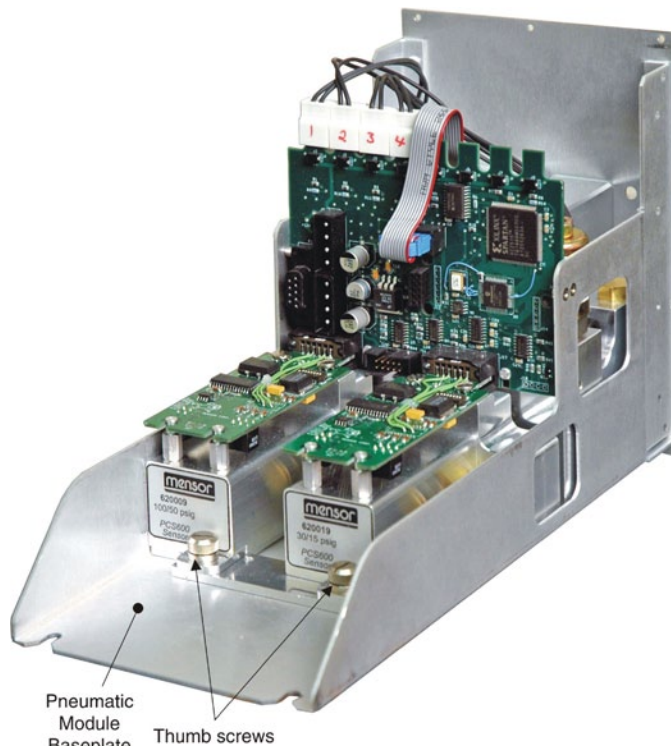

FIGURE 6.1 - PNEUMATIC MODULE, SOLENOID VALVE REGULATOR
3. Unscrew the thumb screw holding in the transducer (Figures 6.1).